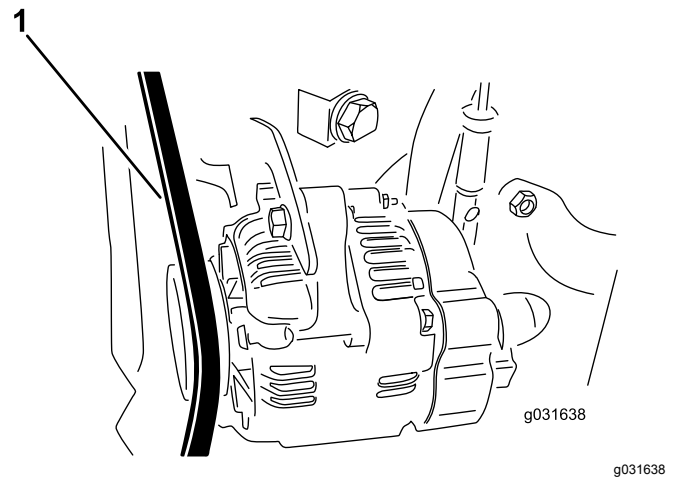

Figure 55
2. Apply 30 N (22 in-lb) of force to the alternator belt, midway between the pulleys (Figure 55).